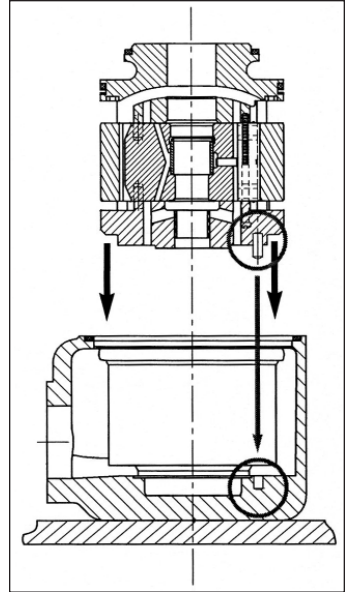

Fig. 35
6. Fit the cartridge into the housing (Fig. 35).